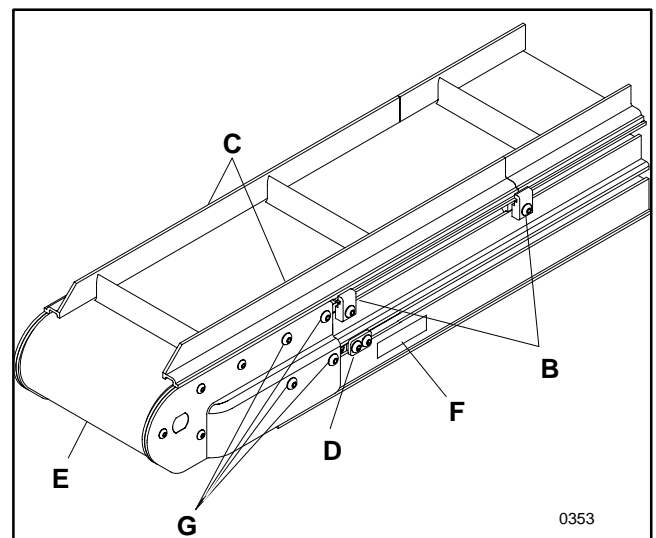

Figure 24
1. **On a Standard Cleated belt conveyor only**, remove and retain the tail guide sections (C of Figure 24), by loosening, removing and retaining the guide clamps (B), on both sides of the conveyor.
2. If engaged, loosen the belt tracking cam assemblies (D), on both sides of the tensioning end (E), identified by label (F). Then, slide the cam assemblies toward the middle of the conveyor.
3. Loosen the tail cover plate screws (G), on both sides of the tensioning end.
4. Collapse the tensioning end (E) of the conveyor by pushing it back into the conveyor frame, using the heel of your hand. This will sufficiently loosen the belt for removal.